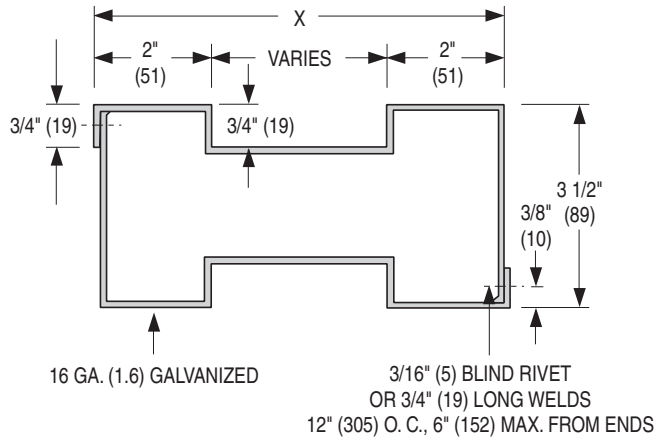
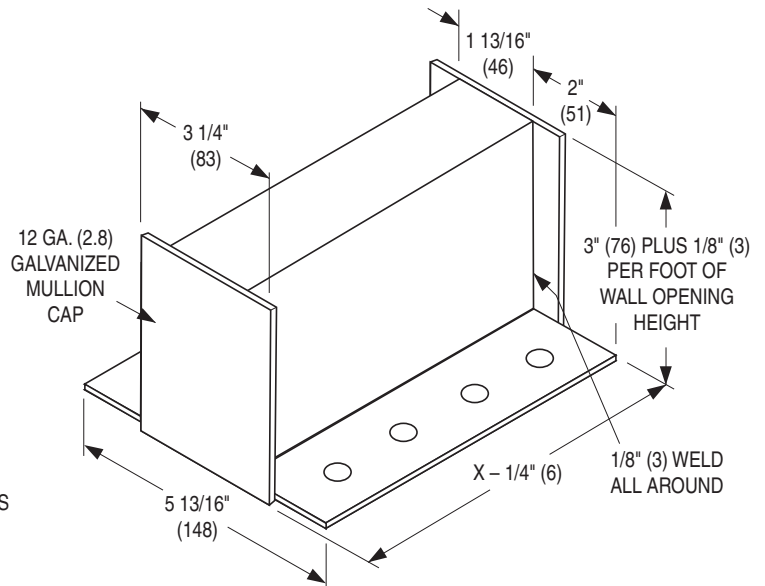

FIGURE 1
FIGURE 2
1. Fabricate mullions of 16 ga. (1.6) galvanized steel as shown in **Figure 1**. Two mullion pieces are joined with 3/16" (5) diameter steel pop rivets or 3/4" (19) long welds located 6" (152) maximum from each end and 12" (305) O.C. maximum.
2. The mullion should permit clearance between the mullion and top cap. Required clearance is 1/8" (3) per foot of wall opening height. Minimum permitted clearance is 1/4" (6). Maximum permitted clearance is 1 1/4" (32) (e.g. for an 8 ft. (2438) high opening the permitted clearance is 1/8" (3) x 8 = 1" (25) +).
3. Fabricate two caps for each mullion of 12 ga. (2.8) galvanized steel as shown in **Figure 2** for vertical and horizontal mullions. (Caps must permit mullion to overlap each cap by minimum 3" (76)). Cap height is calculated by adding 3" (76) to permitted mullion expansion clearance which is 1/8" (3) per foot of wall opening height. Insert mullion caps into mullion ends allowing mullion to float between the caps. Do not fasten mullion to caps in any way. Locate within opening to provide correct expansion clearance for dampers.